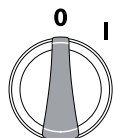
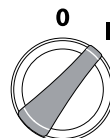

Fig. 16
Fig. 17
1. Make sure the on/off switch (5) is on "O"(off) (Fig. 16).
2. insert the plug (4) into a properly installed socket.
3. Turn the on/off switch (5) to "I" (on) (Fig. 17).